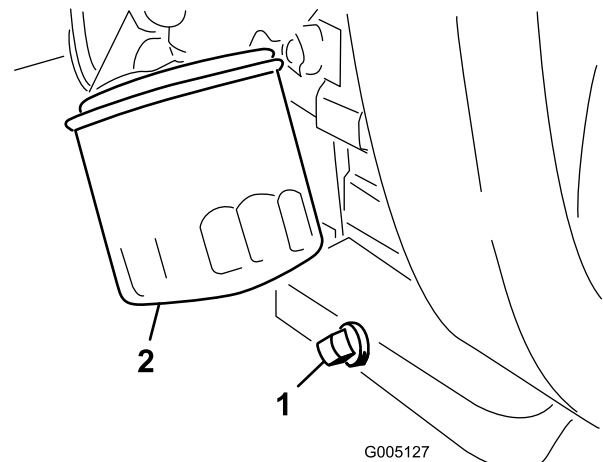

Figure 44
1. Remove the drain plug (Figure 44) and let oil flow into a drain pan. When the oil stops, install the drain plug.
2. Remove the oil filter (Figure 44). Apply a light coat of clean oil to the new filter gasket.